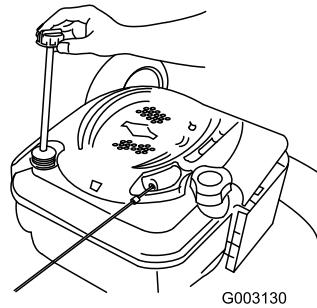

Figure 37
- Retirez la jauge (Figure 37).